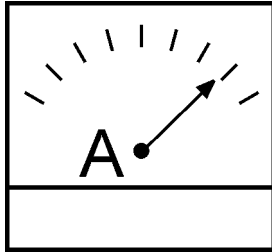

Figure 32. Ammeter (Load)
7. Observe the generator's ammeter (Figure 32) and verify it reads the anticipated amount of current with respect to the load. The ammeter will only display a current reading if a load is in use.